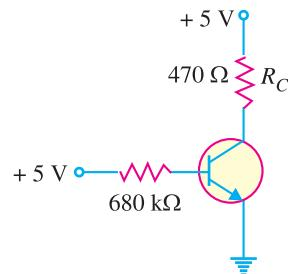

Fig. 8.71
10. Draw the d.c. load line for Fig. 8.71.
11. If the collector resistance R_C in Fig. 8.71 is increased to $1\text{k}\Omega$, what happens to the d.c. load line?